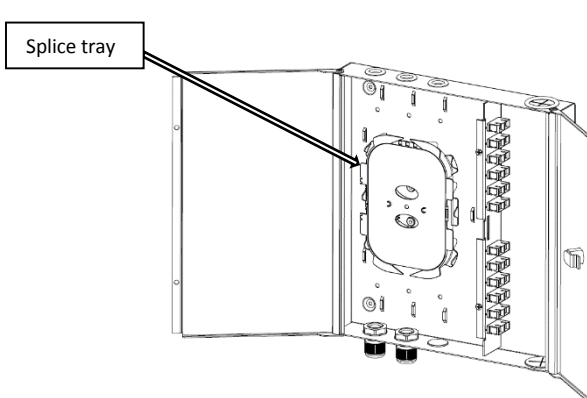

Fig.5
- Place Splice tray on the Enclosure base and fasten by using 2 no's of M3x35mm Screws and M3 hex nut. (Note:- Splice tray need to be order separately) (Screws and nuts are included in the accessory kit.) (Fig.5).